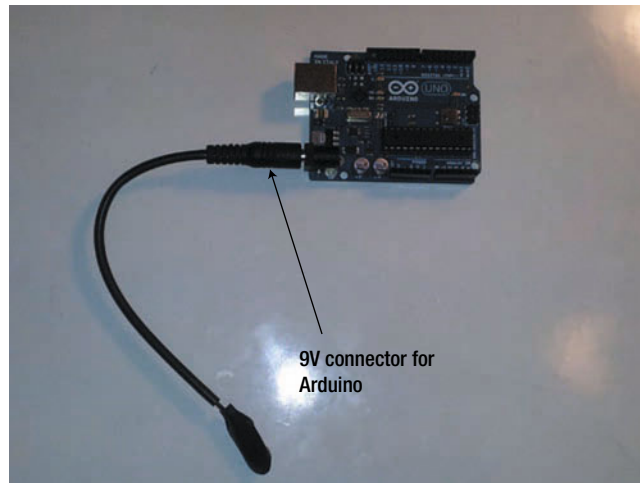

Figure 23-8. Attach the 9V connector to the Arduino
7. Connect the 9V connector to the Arduino, as shown in Figure 23-8.